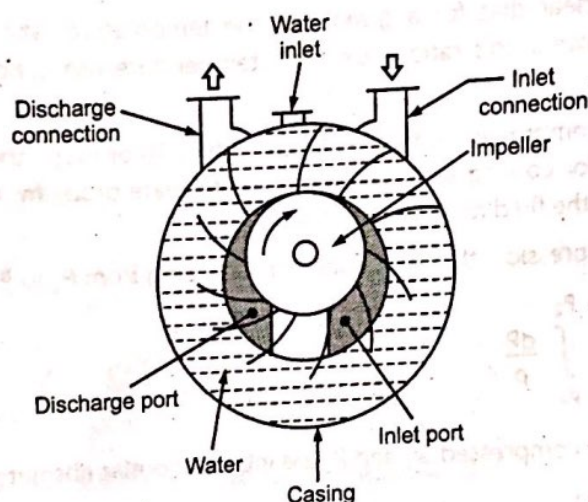

Fig. 10.8 : Water ring vacuum pump (OR Liquid ring vacuum pump)
- In the uppermost portion of the casing, the water ring is nearest to the impeller and completely fills the impeller cell (space between the two adjacent blades) with water (Refer Fig. 10.8) and in the lowermost portion, the impeller cells are free of water, i.e., the impeller blades are not dipped into the water.